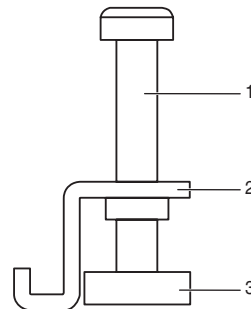

Figure 3.3: Mounting hardware set
- 2 Keep the four mounting sets at hand. Each set consists of a screw (1), a clamp (2) and a cap (3) as shown in Figure 3.3: Mounting hardware set.